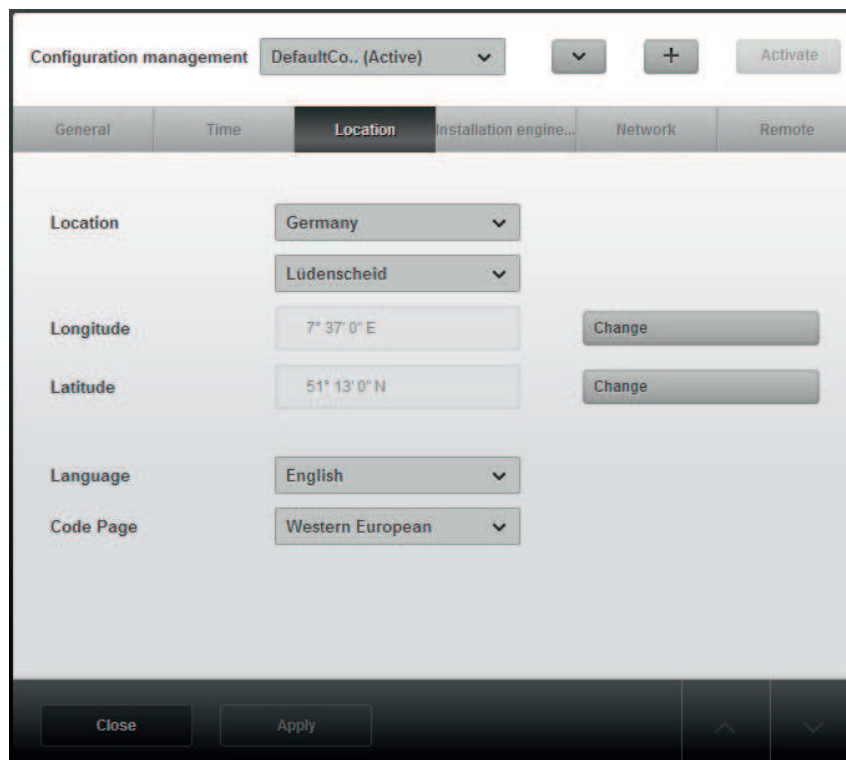

Figure 21: Configuration management - Location specification
- Select the country and location from the drop-down lists (Figure 21).